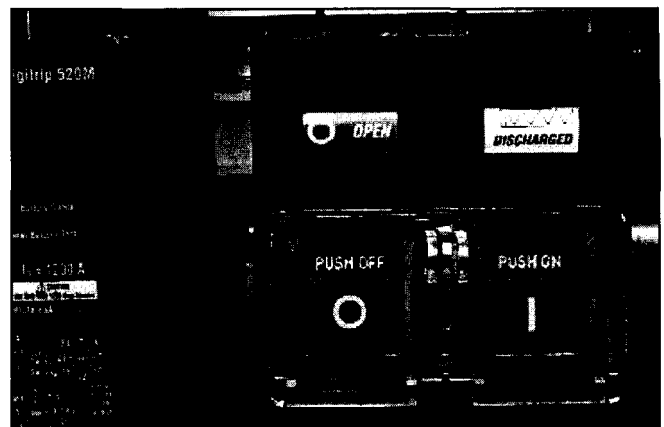

Figure 3-46 ON-OFF Pushbutton Lockable Cover Plate
**Pushbutton Cover** - Padlockable covers are available to limit access to the "ON" and "OFF" pushbuttons (Figure 3-46). They can be installed with either or both pushbutton covers in place.